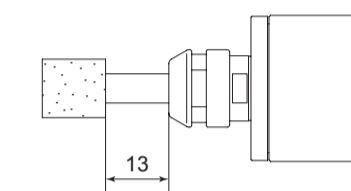

Fig. 20
- 2 Do not exceed 13mm of overhang for mounted grindstones as shown in Fig. 20. If the overhang must exceed 13mm, reduce the motor speed in accordance with Table. 3.